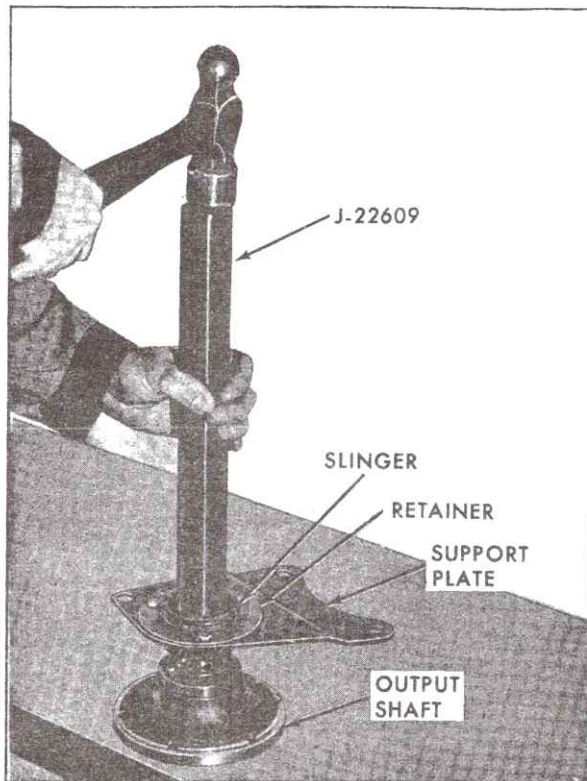

Fig. 3-63 Installing Right Hand Output Shaft Support Slinger
5. Using a hammer and Bearing Installer, J-22609, install slinger as shown in Fig. 3-63.